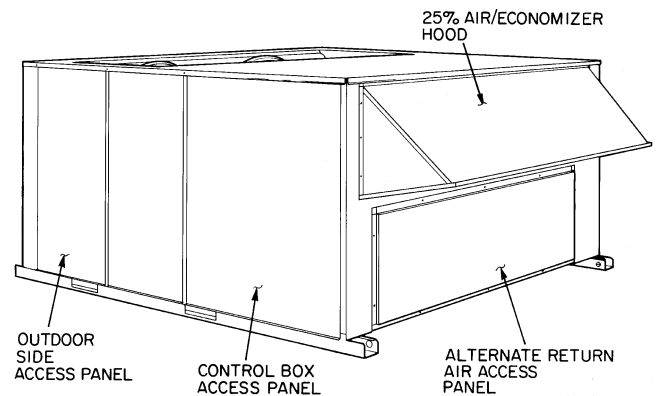
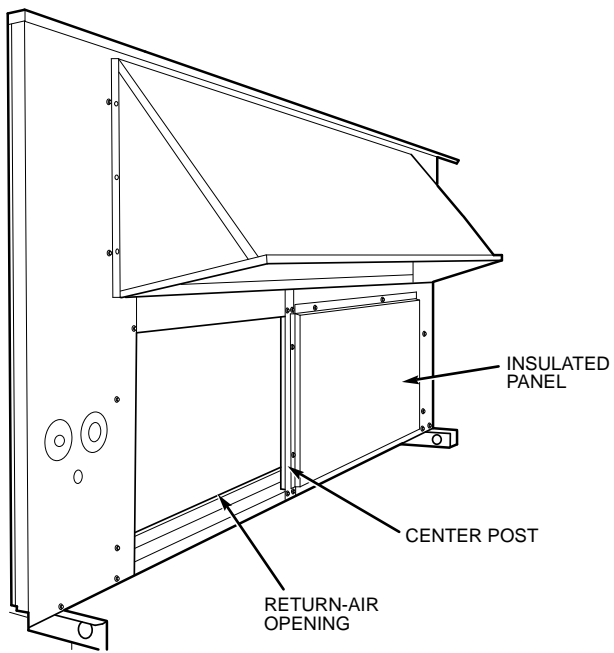
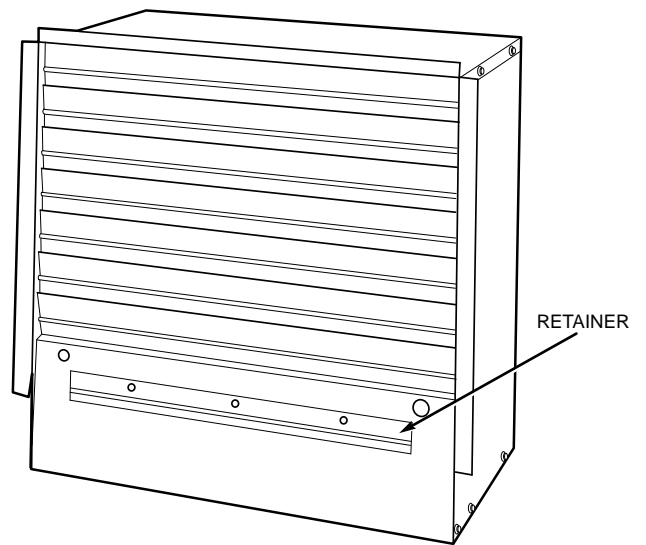

Fig. 2 — Typical Base Unit
Fig. 3 — Base Unit Details
Fig. 4 — Relief Damper Assembly
1. Remove alternate return-air access panel (Fig. 2) and save screws. Using these screws, install center post and insulated panel assembly as shown in Fig. 3.
2. Position damper assembly in return-air opening (Fig. 3). Use retainer on back of damper assembly to facilitate positioning (Fig. 4).